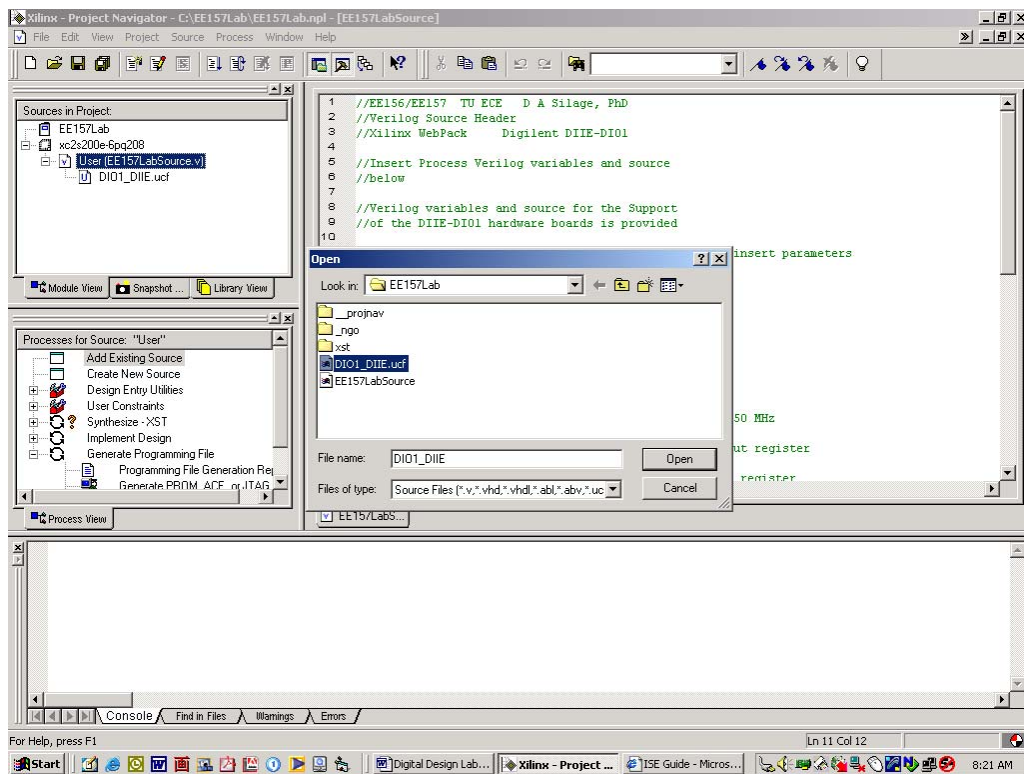
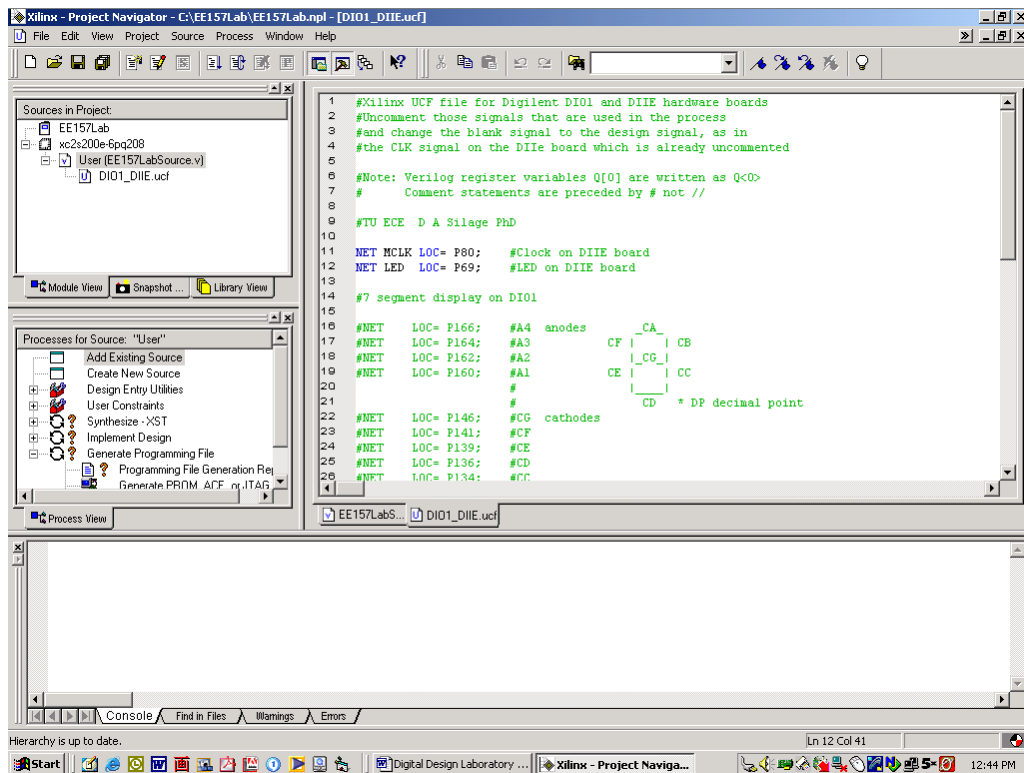

Figure 5
Figure 6
3. The User Constraints File (UCF) designates the FPGA hardware pins that will be used for the signals of the design. The complete UCF for the *Project Header*, *DIO1_DIle.ucf*, is listed below (the – character in a name is not allowed). Click on *File...Open* and select *DIO1_DIle.ucf* as shown in Figure 5. The UCF appears in the edit window on the right of the screen, as shown in Figure 6. The complete UCF is listed below.